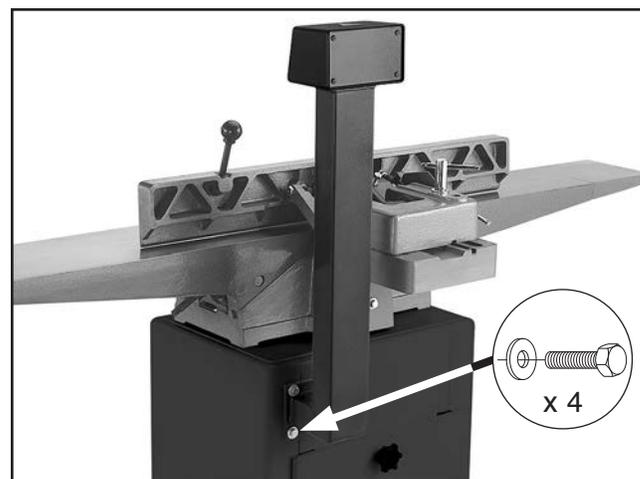

Figure 4. Column installed.
23. Secure column to stand with (4) $\frac{5}{16}$ "-18 x 1" hex bolts and $\frac{5}{16}$ " flat washers (see **Figure 4**).